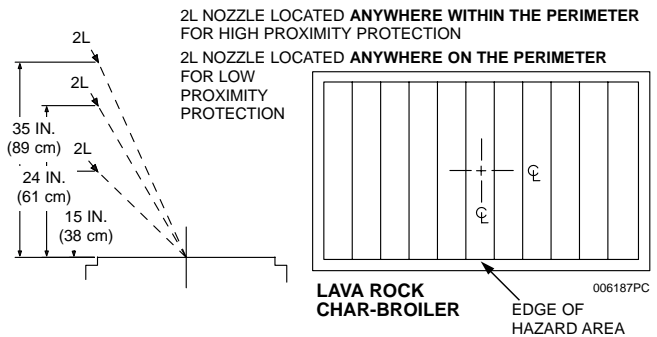

Figure 3-12
The 2L nozzle, Part No. 551027, is used for high proximity lava rock char-broiler protection. This nozzle is a two (2) flow nozzle. The nozzle must be located **anywhere within the perimeter** of the hazard area, 24 in. to 35 in. (61 to 89 cm) above the cooking surface of the appliance and aimed at the center of the broiler surface. See **Figure 3-12**.
The 2L nozzle, Part No. 551027, is used for low proximity lava rock char-broiler protection. This nozzle is a two (2) flow nozzle. The nozzle must be located **anywhere on the perimeter** of the hazard surface, 15 in. to 24 in. (38 to 61 cm) above the cooking surface of the appliance and aimed at the center of the broiler surface. See **Figure 3-12**.